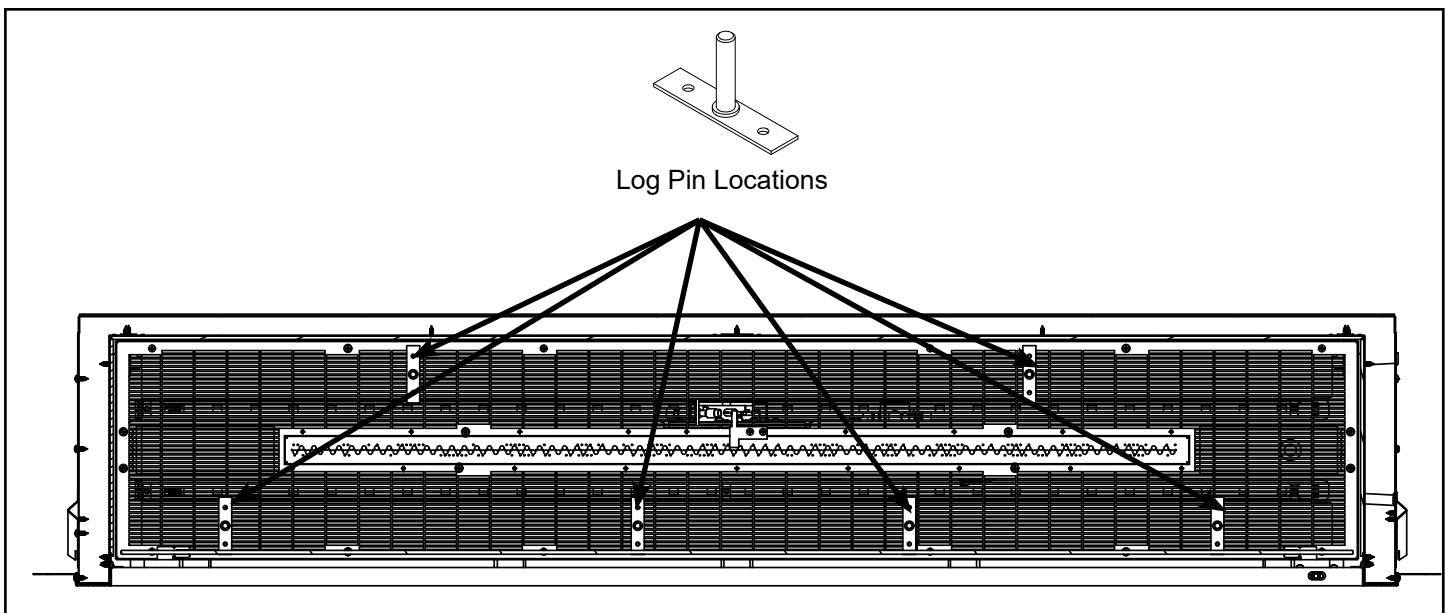

Figure 7.7 – Log Pin Placement for AVFL60N(P)IP AND ODLANAIG-60
1. Mount the six log support pin brackets using mounting holes and screws provided in locations indicated in Figure 7.7 for the front logs and rear log. Only one hole of the pin bracket will be used to secure the pin to the